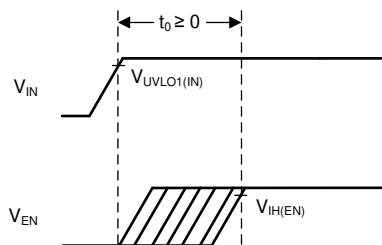

Figure 8-5. Sequencing Diagram
- V_{BIAS} and V_{IN} can be sequenced in any order, as long as V_{EN} is tied to V_{IN} or established after V_{IN}, as shown in Figure 8-5.